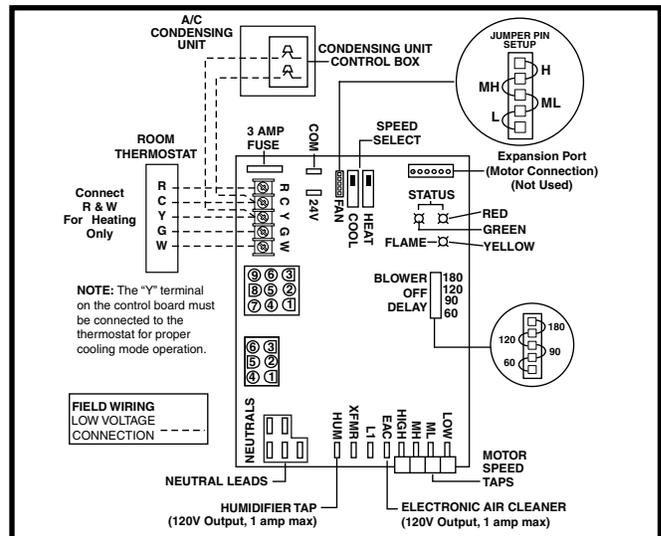

Figure 13. Low Voltage Connections
are wired to the terminal strip on the integrated control in the furnace. Figure 13 contains the proper connections for heating only (two-wire) and heating/cooling (four-wire) applications.
- The six pin terminal marked "Expansion Port" (Figure 13, \(page 14\)) is not used in the single stage furnace as shipped from the factory. It is used for the furnace control board to communicate to a fixed speed or variable speed high efficiency motor that may be optionally installed. Please contact your distributor for the proper upgrade motor kit.
- ✓ Verify the jumper setting (for fan speed) on the control board. See Figure 13, \(page 14\).
- When the thermostat energizes the **G** terminal for continuous fan (without calling for heat or cooling), the indoor fan is energized on the selected FAN speed. See Figure 13, \(page 14\). The control defaults to MEDIUM HIGH if the movable jumper is not attached.